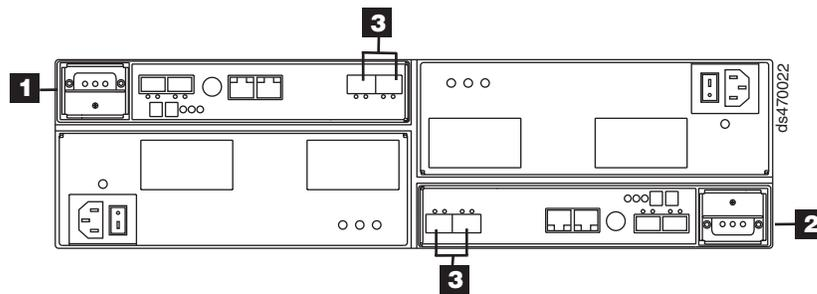
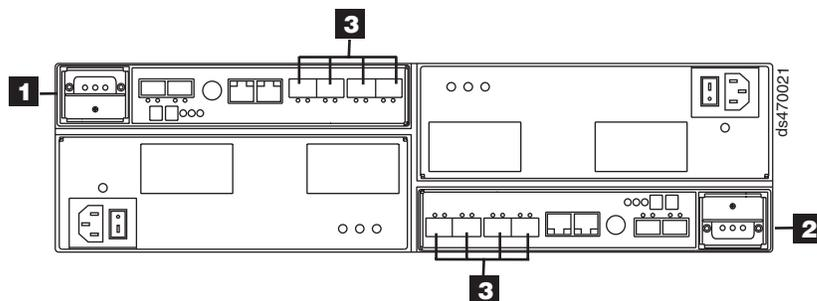

Figure 65. Location of host cables on RAID controllers on model 70 of the DS4700
Figure 66. Location of host cables on RAID controllers on model 72 of the DS4700
2. Connect the fibre channel cables from the SFP modules in the DS4700 RAID controller host ports to either the SFP modules in the fibre channel switch or the SFP modules of the host bus adapters. Figure 65 and Figure 66 show the location on the RAID controllers on models 70 and 72 of the DS4700 Storage Subsystem where the host-system cables connect.